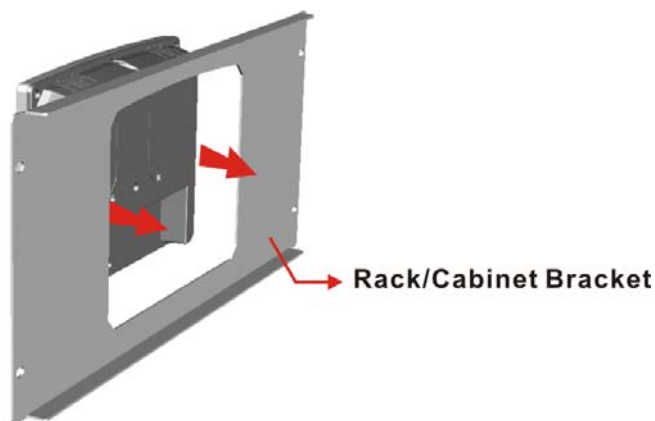

Figure 3-26: The Rack/Cabinet Bracket
Step 2: Slide the rear of the PPC-F08B/F10B-BT flat panel PC through the rack/cabinet bracket until the aluminum frame is flush against the front of the bracket (**Figure 3-26**).